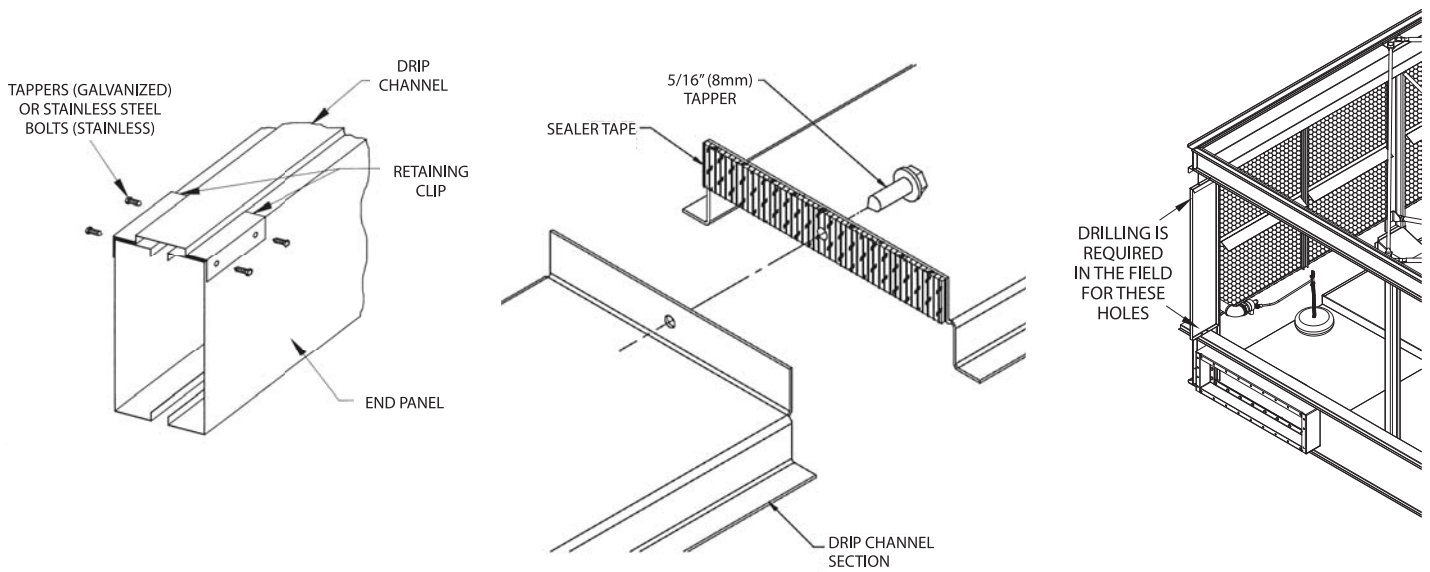

Figure 3a - Drip Channel and Vertical Splash Guard Installation
10. Place the vertical splash guard in the bend of the vertical supports. On galvanized units, attach the vertical splash guard using 5/16" (8mm) self-tapping screws. On stainless steel units, attach the vertical splash guards using 5/16" (8mm) stainless steel nuts and bolts. (See figure 3a)
11. Once the bottom of the vertical splash guard has been attached to the drip channel, place the filler cap channel in the upper flanges of the basin section as shown in Figure 3a. Attach to vertical splash guards using 5/16" (8mm) tappers (for galvanized units) or stainless steel nuts and bolts (for stainless steel units).